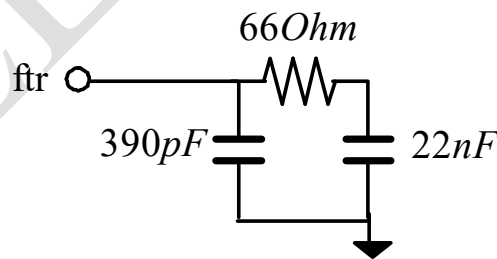

Fig. 5. External Loop Filter
The main function of the clock recovery (CR) core is to frequency-lock the selected on-chip VCO to the input data signal. The CR core contains a phase acquisition loop, and a frequency acquisition loop. The phase acquisition loop includes a high-speed Alexander Phase Detector (APD) that processes the input data stream dp/dn , and three shifted clock signals that are provided by DLL. The frequency loop consists of a clock divider-by-16, and a PFD Potback block. The frequency acquisition loop works in concert with low-speed clock $c128p/c128n$. Both acquisition loops generate signals that control a single charge pump. The charge pump in combination with a filter generates an analog signal that controls the active VCO. The on-chip filter is small, so the CR requires a single off-chip filter shown in Fig. 5 to be connected to pin flt .